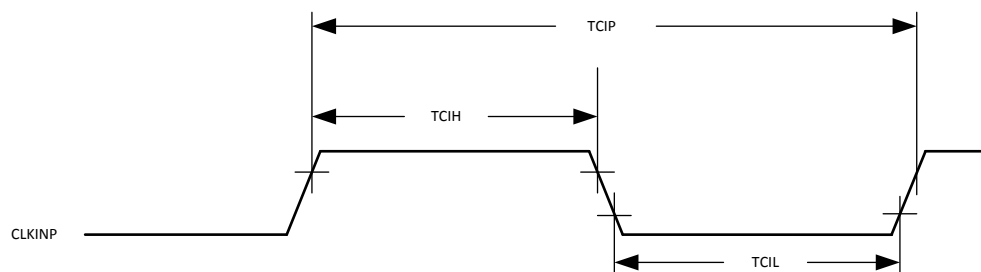
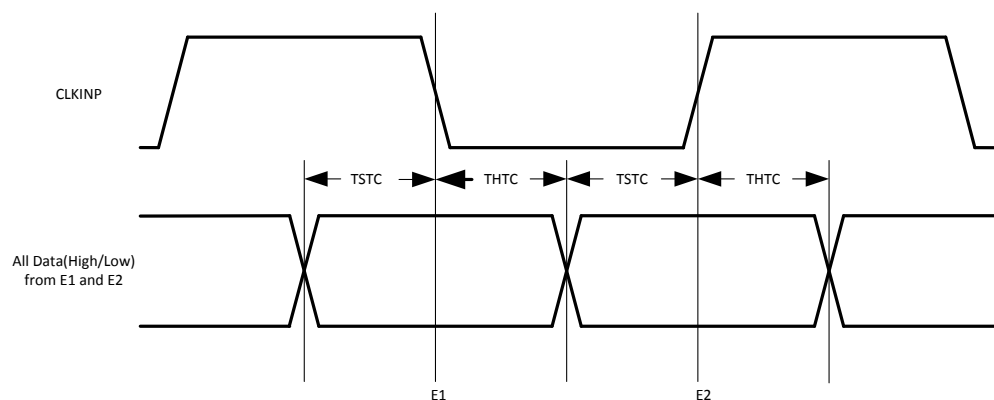

Figure 5. DS90C2501 (Transmitter) Input Clock High/Low Times
Figure 6. Setup/Hold Times, $V_{REF} = 0.900V$, $EDGE = Gnd$, $DUAL = V_{CC}$, $BAL = Gnd$
(1) Ensured by Design
(2) The limits are based on bench characterization of the device's jitter response over the power supply voltage range. Output clock jitter is measured with a cycle-to-cycle jitter of ± 20% data input bit time applied to the input clock signal while data inputs are switching (see Figure 5 and Figure 6). This parameter is used when calculating system margin as described in AN-1059.
(3) From V = 1.25V of CLKINP to V_{DIFF} = 0V of CLK1P when EDGE pin = Gnd, DUAL pin = Gnd or V_{CC} or ½V_{CC}, BAL pin = Gnd.